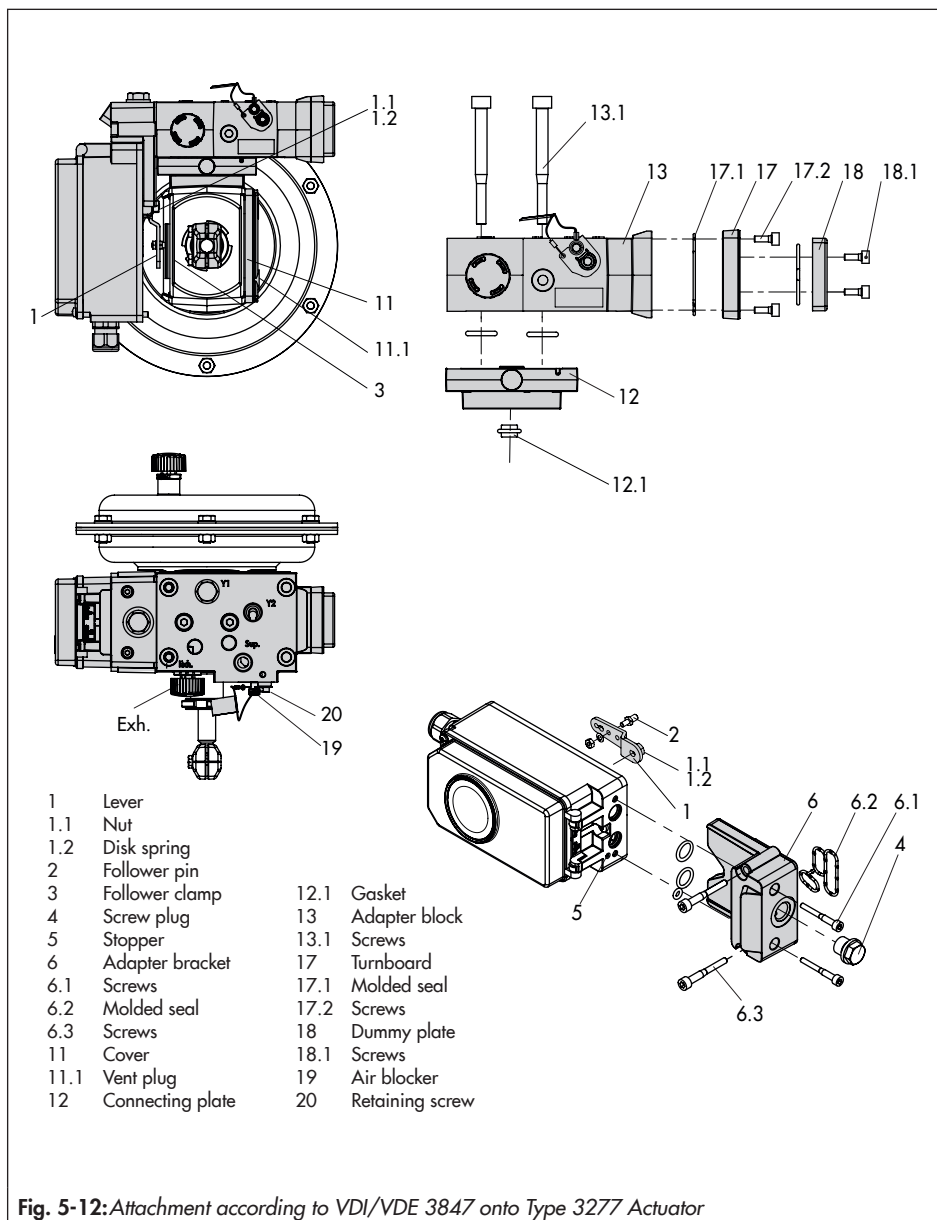

Fig. 5-12: Attachment according to VDI/VDE 3847 onto Type 3277 Actuator
→ See Fig. 5-12.
Attachment to Type 3277 Actuator (see Fig. 5-12)
Mount the positioner on the yoke as shown in Fig. 5-12. The signal pressure is routed to the actuator over the connecting plate (12), for actuators with fail-safe action "actuator stem extends" internally through a bore in the valve yoke and for "actuator stem retracts" through external piping.